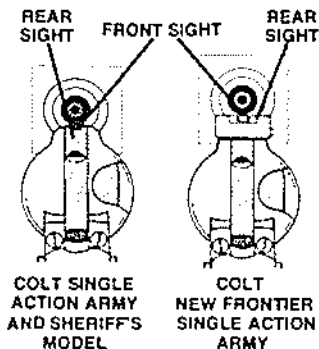

FIGURE 11—AIMING
4. Grasp revolver by grip and, with index finger resting along the outside of trigger guard, take aim. (Aim by aligning target with front and rear sights. See Figure 11. Then focus on the front sight.)